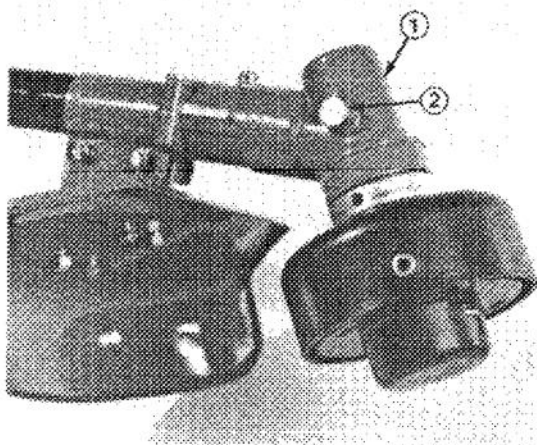

Figure 38
1. Remove the bolt from the side of the gear case (Fig. 38).